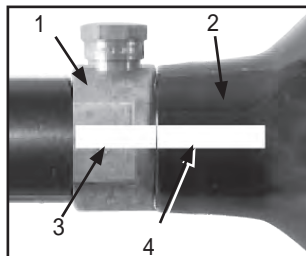

Figure 4: Properly marked Valve and Cylinder
The brass or nickel plated cylinder valve (Figure 4, #1) is intended to be permanently attached to the air or CO2 cylinder (2).
Refer to Figure 4. There have been reported incidents caused by players unknowingly unscrewing the cylinder (2) from the cylinder valve (1). This occurs when the player thinks the entire valve-cylinder assembly is being unscrewed from the air/CO2 supply adaptor of the paintball marker, when in fact he/she is unscrewing the cylinder from the cylinder valve.
4. Watch the marks on the cylinder and cylinder valve (as shown in Figure 4 on page 10) as you turn the cylinder approximately  $\frac{3}{4}$  turn counterclockwise. This allows the air/CO2 supply pin valve to close so that no air/CO2 will enter the marker.